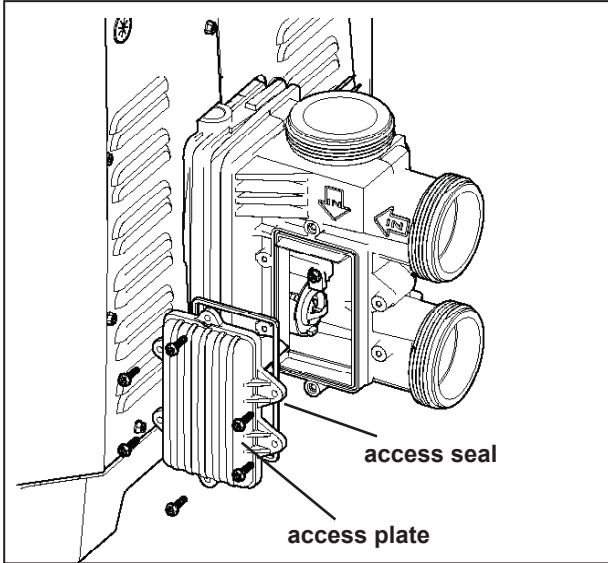

Figure 2. Remove Access Plate and Seal
7. Remove six (6) screws from side access plate and access plate seal (see Figure 2).